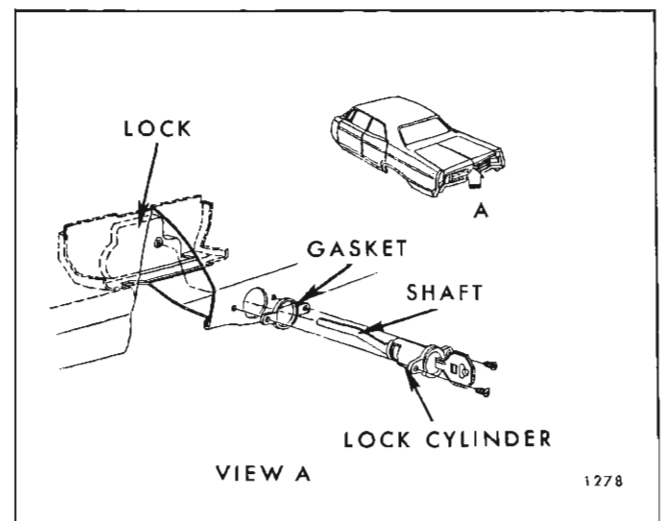

Fig. 1F12—Rear Compartment Lid Lock Cylinder Assembly
2. Remove the two exposed screws securing rear compartment lid lock cylinder to lid and remove cylinder (see Fig. 1F12).